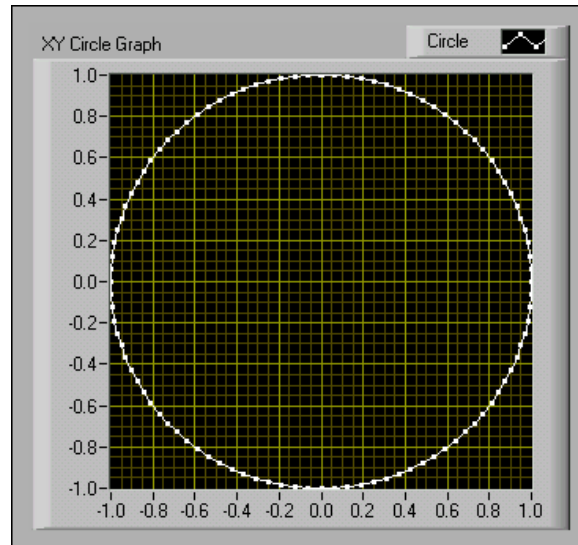

Figure 7.25
1. Open a blank VI and build the front panel shown in Figure 7.25.
- e. Change the scale labels and ranges, as shown in Figure 7.25.